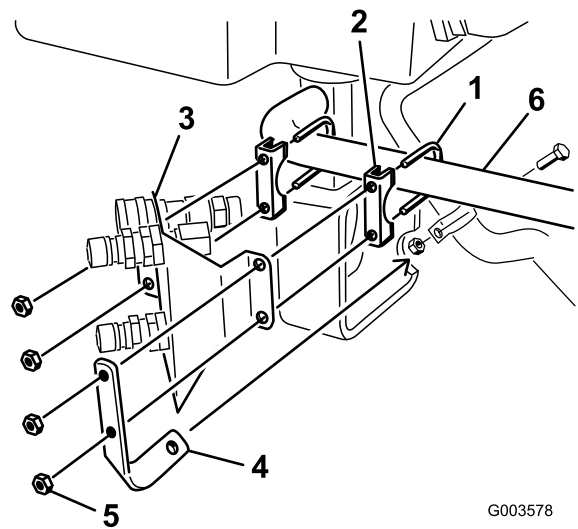

Figure 9
2. Install the hose retainer bracket and the coupler bracket to the muffler clamps. Do not tighten the nuts at this time. The coupler bracket needs to be loose to install the hydraulic lines (Figure 9).